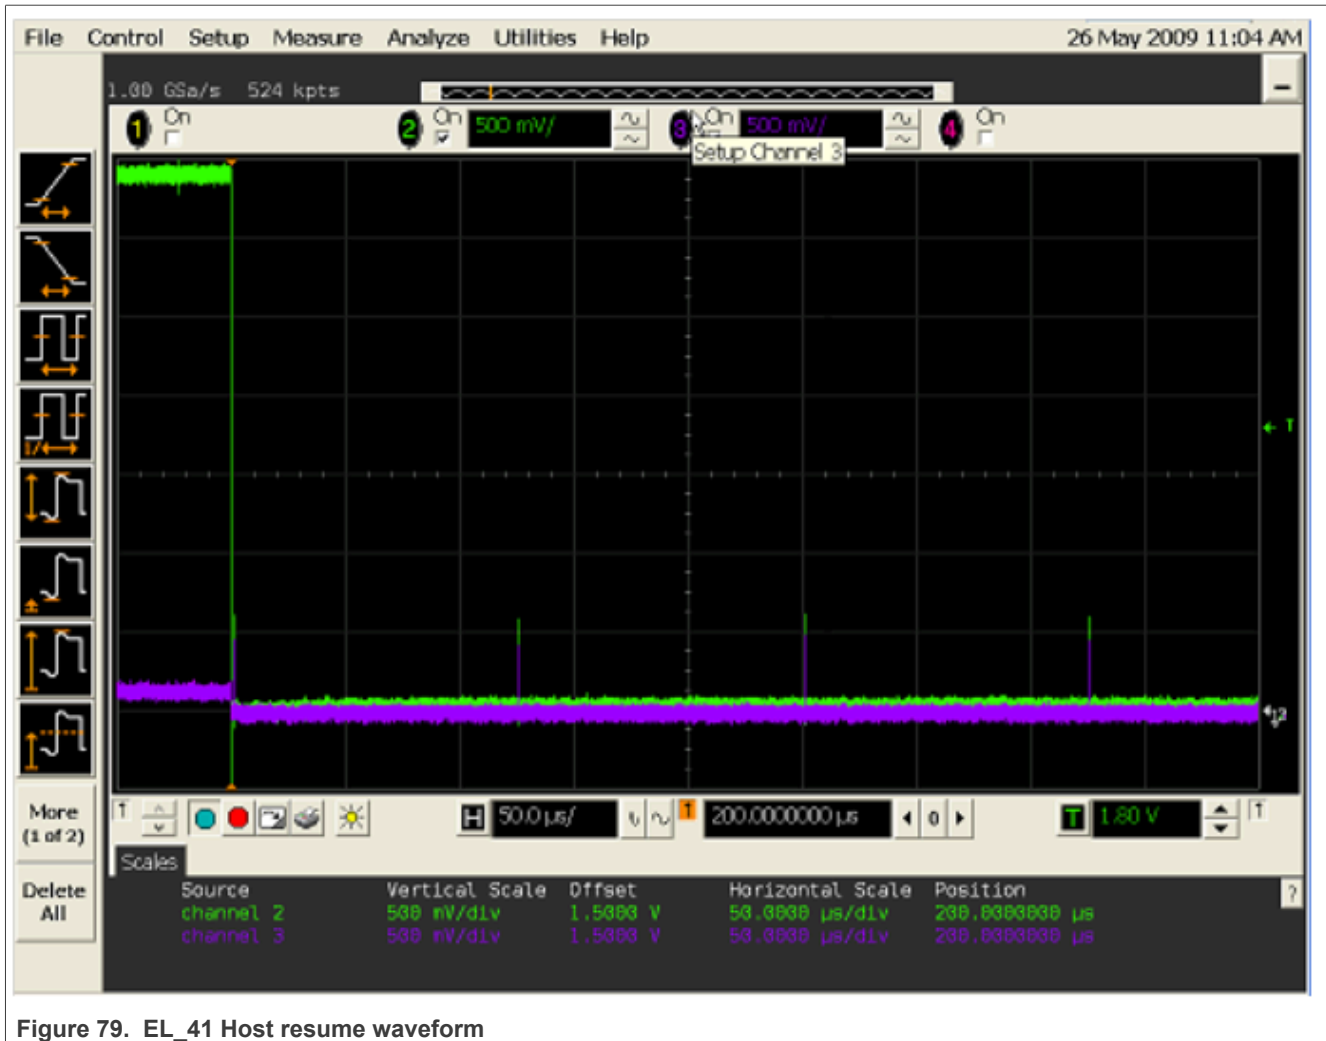

Figure 79. EL\_41 Host resume waveform
5. After 15 seconds of suspend state the host shall issue a **Resume K** state on the bus, then continue sending SOFs. The captured transition should be as shown in Figure 79 below.